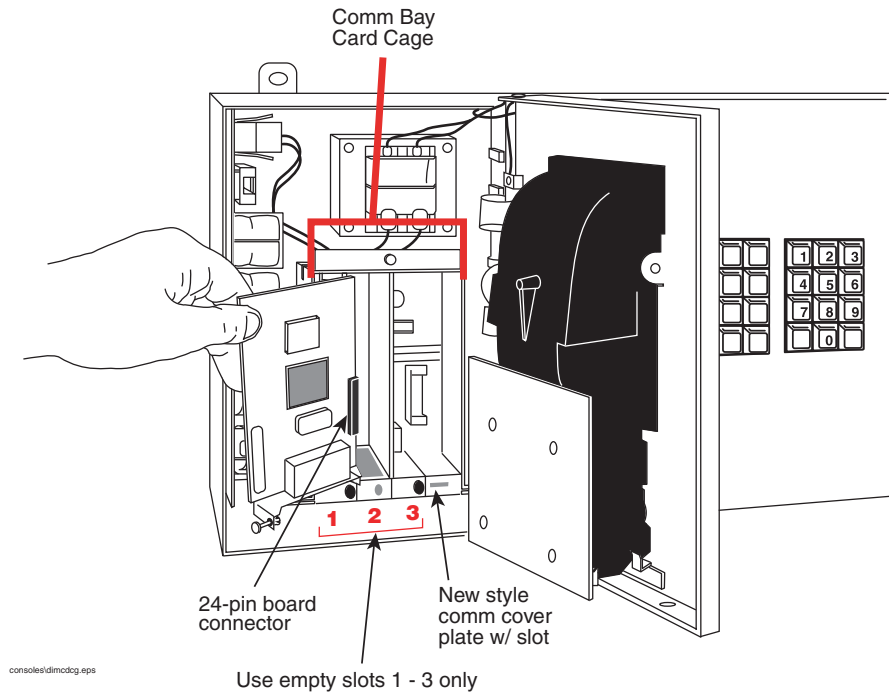

Figure 3. TLS-350 Series VMCI Module Installation
5. Remove the blank cover plate from an open slot in the communication compartment. Important Note: The VMCI Module can only be installed in slots 1, 2, or 3 of the console's Comm Bay card cage (Figure 3).
If your console has "knockout" cover plates, open the printer door and insert a flat blade screw driver in the slot provided in the front of the cover plate you are removing and twist it to break the front set of metal securing tabs (Figure 3). Once the front tabs are broken, carefully rock the loosened end of the plate until the rear set of securing tabs break. Remove and discard the cover plate.